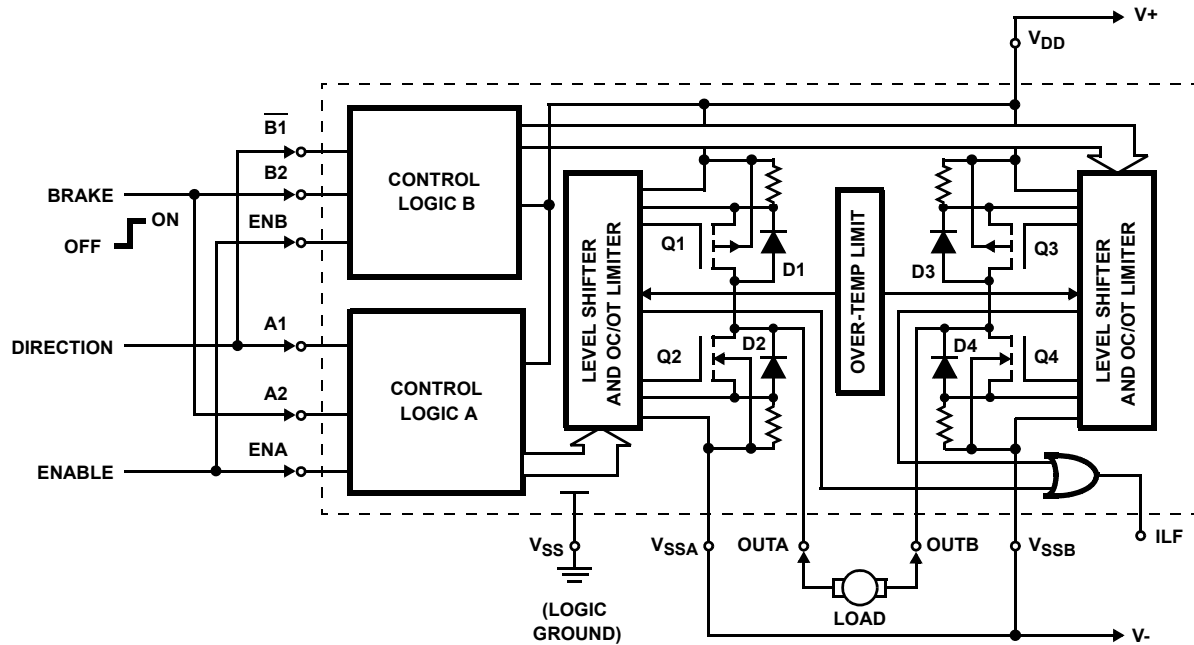

FIGURE 1. TYPICAL MOTOR CONTROL APPLICATION CIRCUIT SHOWING DIRECTIONAL AND BRAKING CONTROL
3. Refer to the Truth Table and the V_{EN} to V_{OUT} Switching Waveforms. Current, I_O refers to I_{OUTA} or I_{OUTB} as the Output Load current. Note that ENA controls OUTA and ENB controls OUTB. Each Half H-Switch has independent control from the respective A1, A2, ENA or B1, B2, ENB inputs. Refer to the Terminal Information Table for external pin connections to establish mode control switching. Figure 1 shows a typical application circuit used to control a DC Motor.
The HIP4020 is designed to detect load current feedback from sampling resistors of low value in the source connections of the output drivers to V_{DD} , V_{SSA} and V_{SSB} (See Figure 1). When the sink or source current at OUTA or OUTB exceeds the preset OC (Overcurrent) limiting value of 550mA typical, the current is held at the limiting value. If the OT (Over-Temperature) Shutdown Protection limit is exceeded, temperature sensing BiMOS circuits limit the junction temperature to 150°C typical.
The circuit of Figure 1 shows the Full H-Switch in a small motor-drive application. The left (A) and right (B) H-Switch's are controlled from the A and B inputs via the A and B CONTROL LOGIC to the MOS output transistors Q1, Q2, Q3 and Q4. The circuit is intended to safely start, stop, and control rotational direction for a motor requiring no more than 0.5A of supply current. The stop function includes a Dynamic Braking feature.